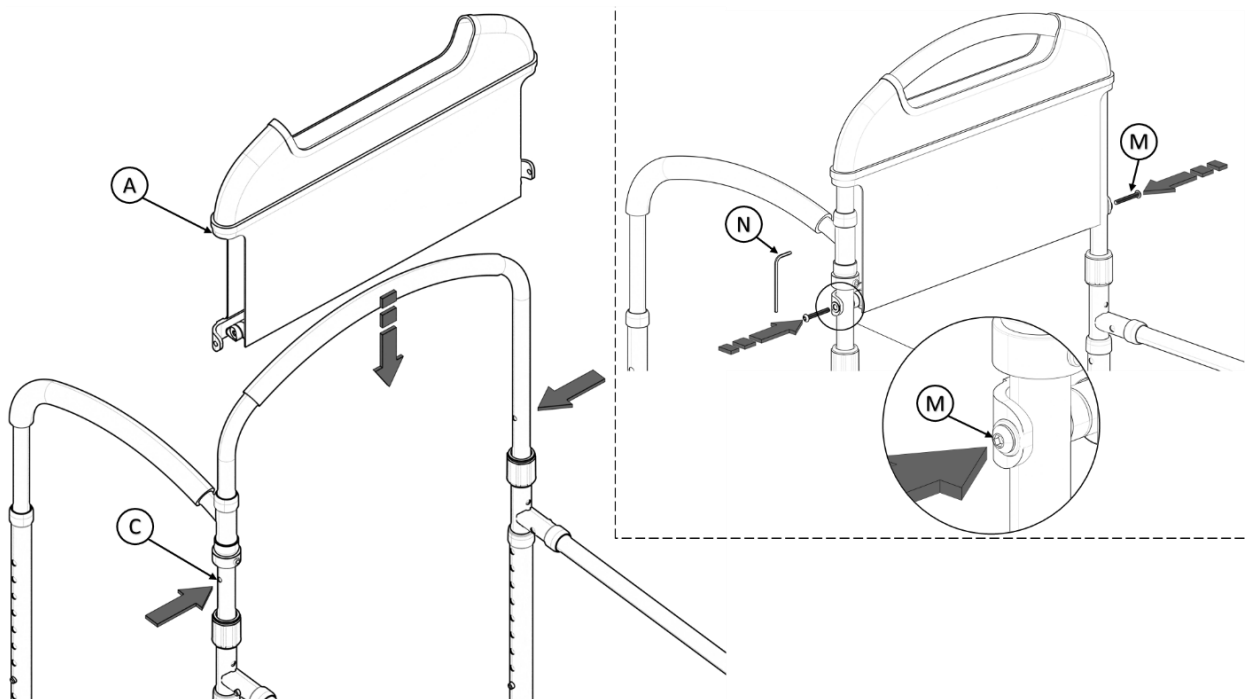

FIGURE 5
5. Place the Pouch (**A**) over the Handle (**C**) as shown in *FIGURE 5*. Align the pouch tabs and the metal tube that is attached to **A** with the side holes of the Handle (**C**); Secure with bolts (**M**) using the tool provided (**N**) as shown in *FIGURE 5*.